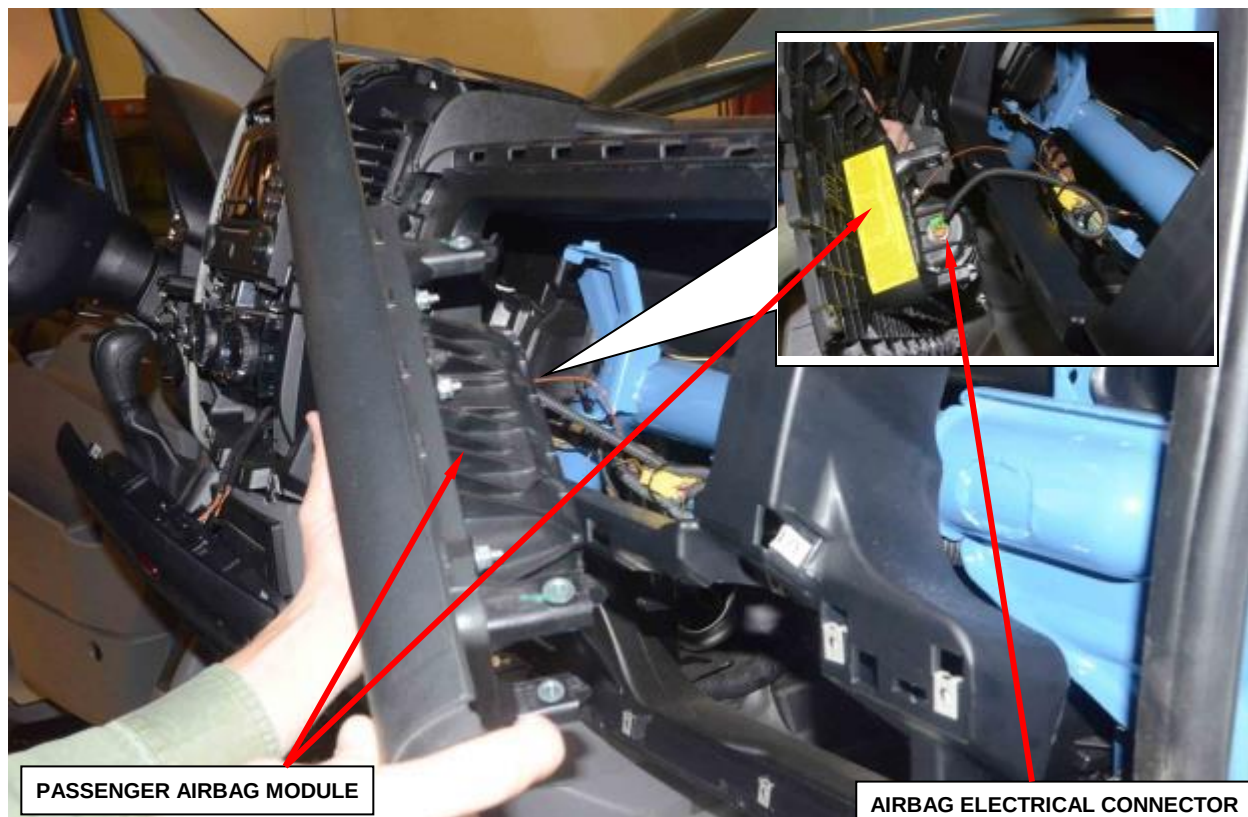

Figure 184 – Passenger Airbag Module
15. Pull the passenger airbag module rearward far enough to access the airbag electrical connector on the inboard end of the unit (Figure 184 and 185).